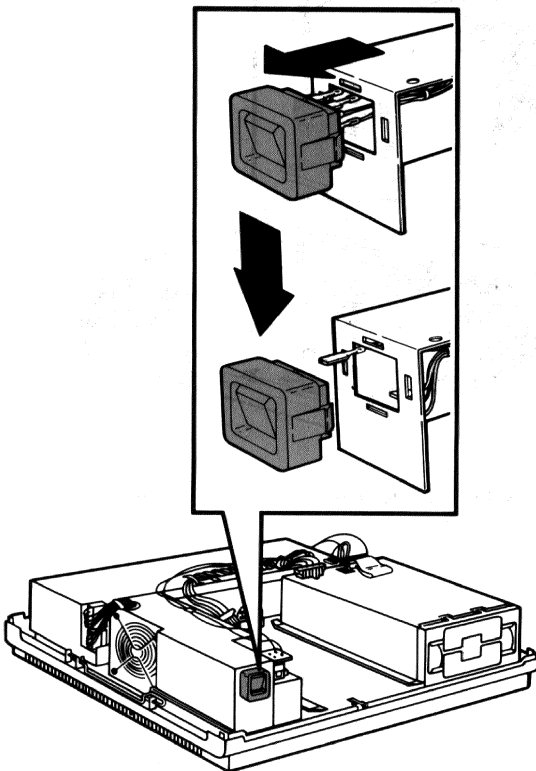

Figure 5-27 Removing Power Switch
2. Squeeze the sides of the power switch and pull it out a few inches (Figure 5-27).
3. Note the positions of the wires on the switch and then unplug it (Figure 5-27).